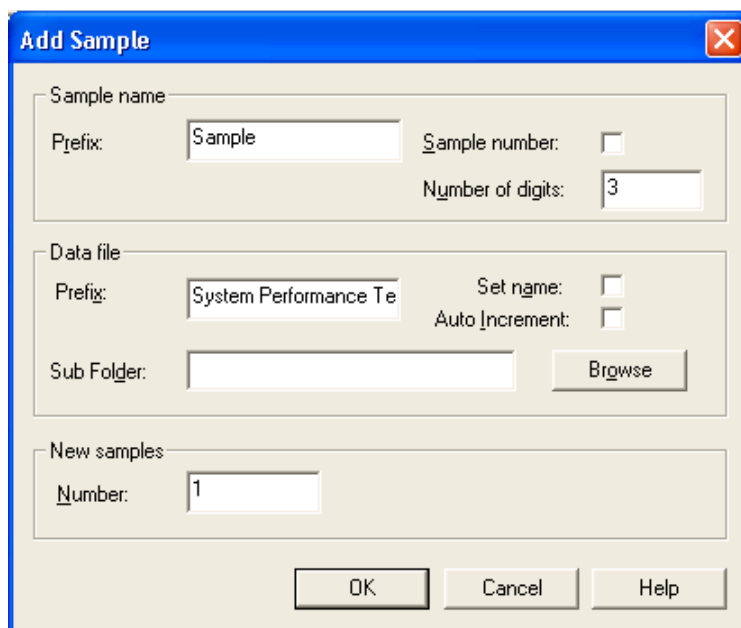

Figure 3-27 Add Sample dialog—System Performance Test
2. Build the acquisition batch, as shown in Figure 3-27.